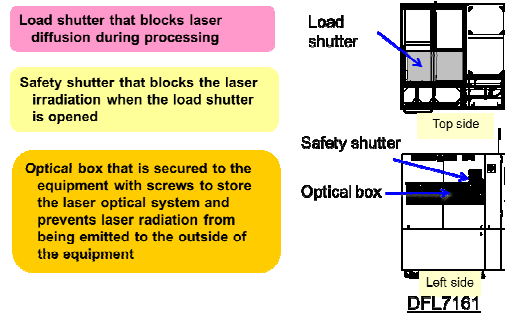

Fig.4 Safety mechanisms installed in the DFL7161
- (1) A shield cover and safety shutter that block various types of laser beams (e.g. direct beam, scattered beam, and diffused beam) and prevent them from being radiated to the outside of the equipment (Fig. 4)
- (2) An interlock that turns the laser power off when the shield cover or safety shutter is opened during laser irradiation
- (3) A system that shuts down the laser power if